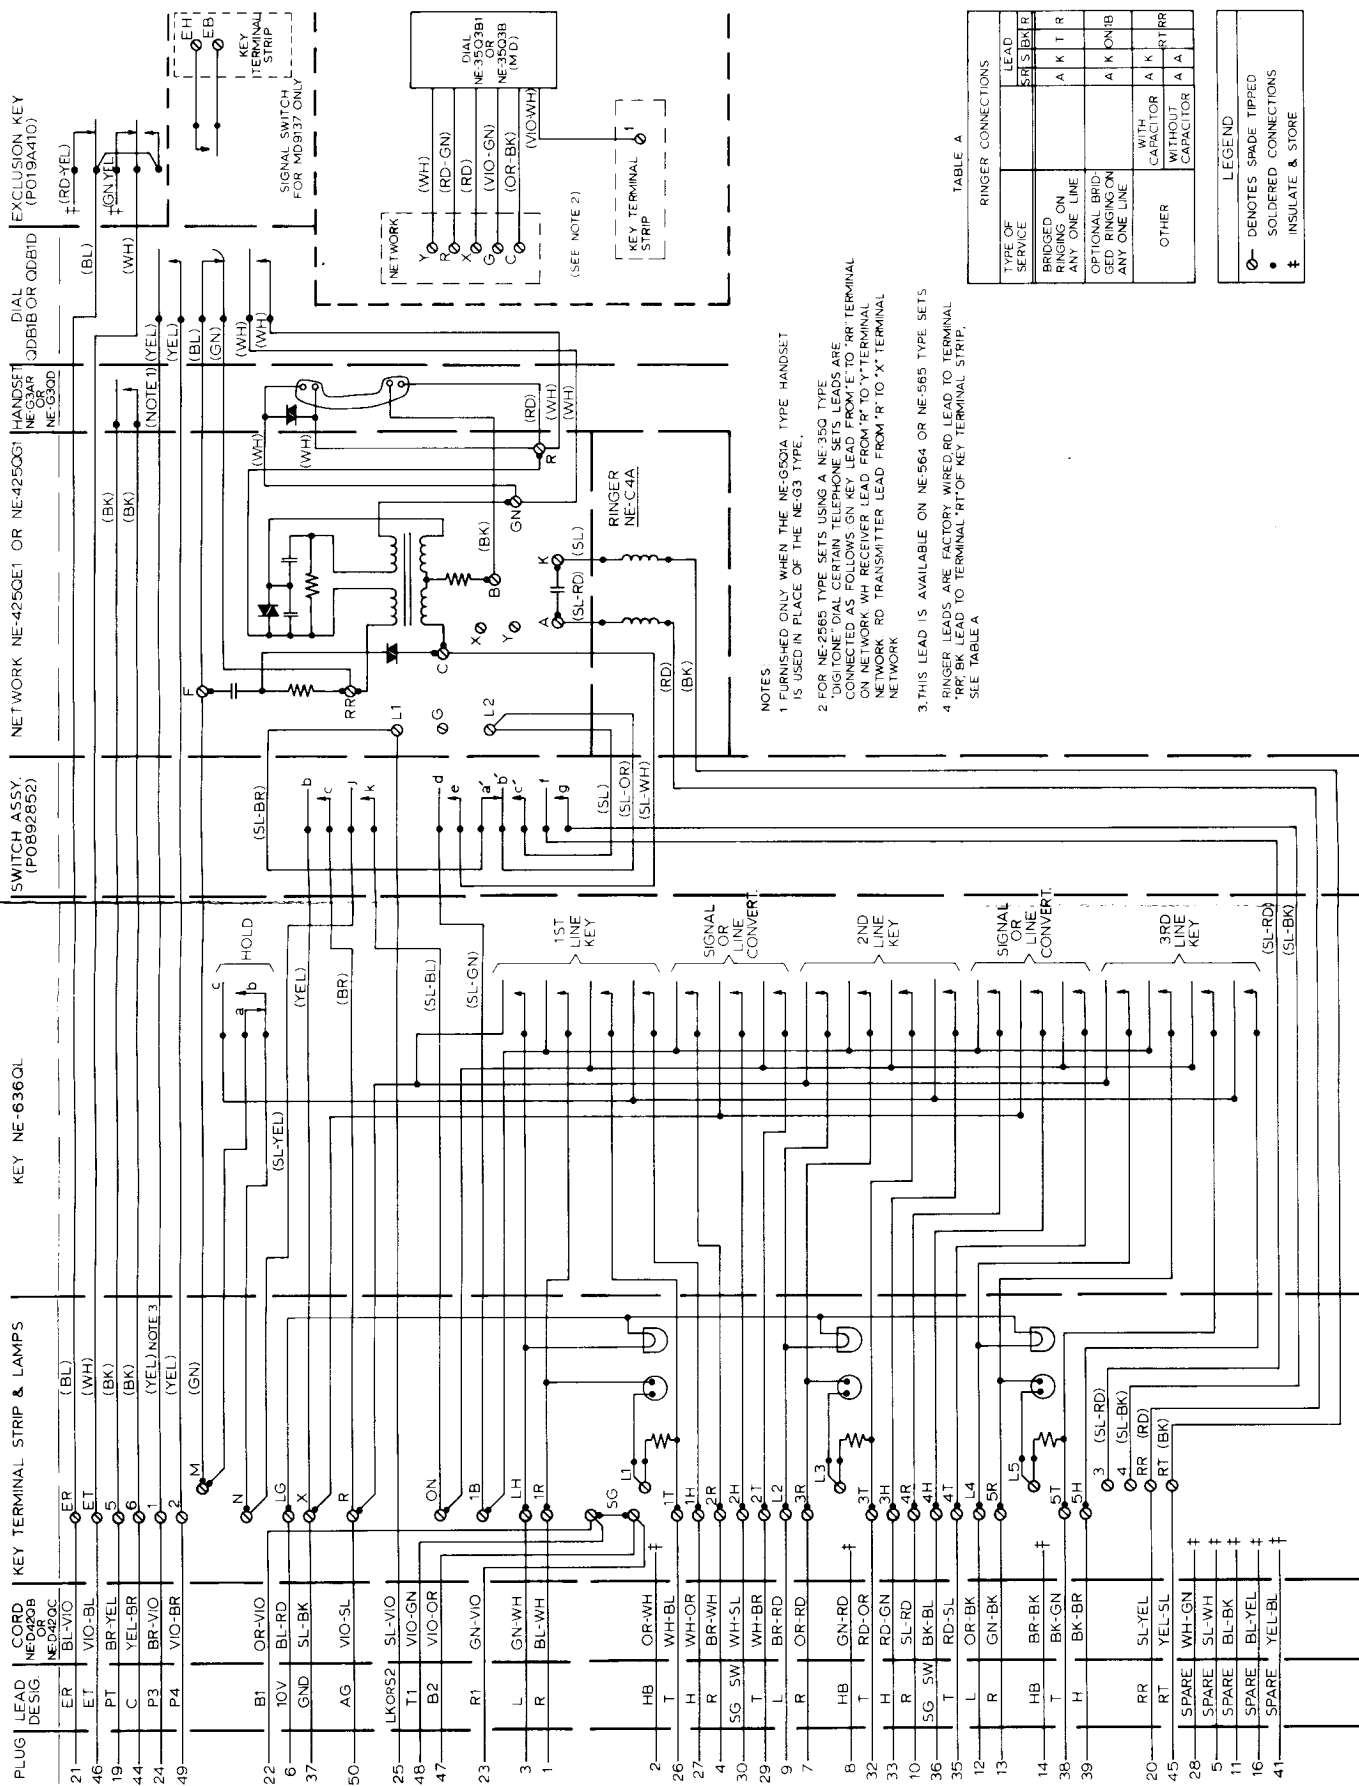

Fig. 2
2.05 The connections for the NE-564, NE-565 and NE-2565 type telephone sets used in the SK-1 key telephone system are shown in Fig. 2, and the connector cable and mounting cord conductor arrangements are shown in Table C.